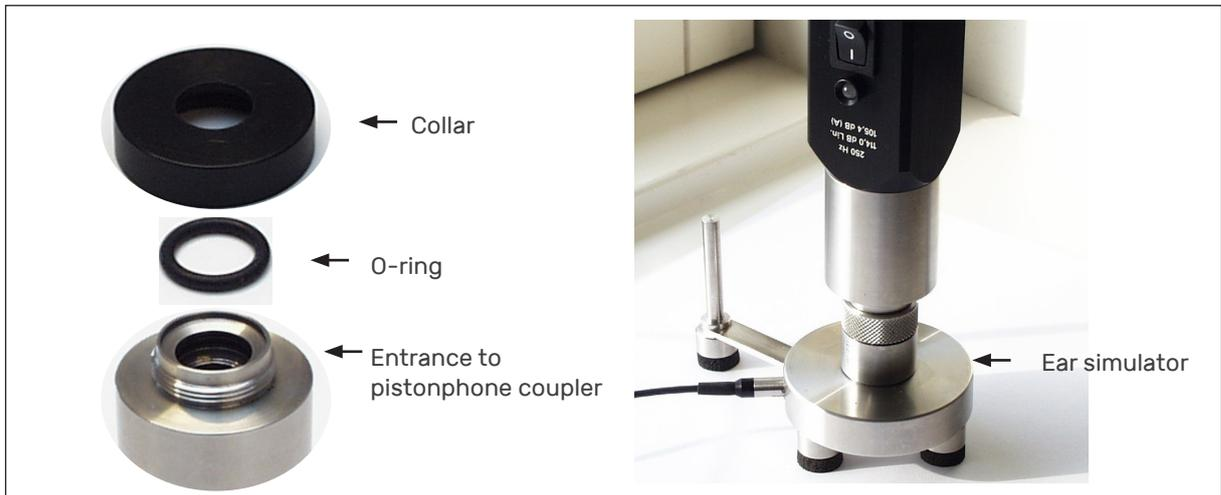

Fig. 6. Calibration using the pistonphone
- 1) Unscrew the collar of the pistonphone and remove the O-ring (see Fig. 6).